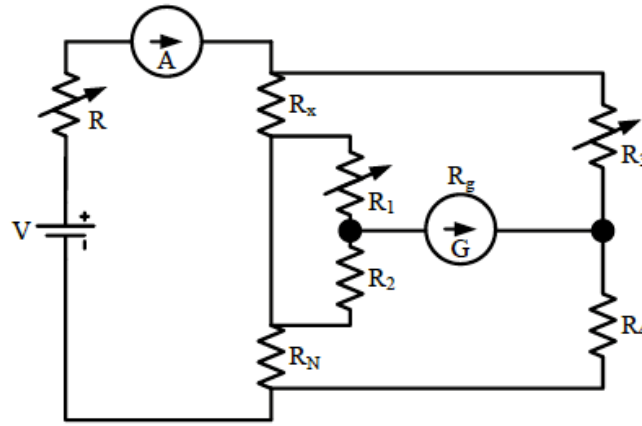

Figure 4. Thomson bridge.
When measuring small resistances with the Wheatstone bridge, the resistances of the connection wires affect the result. Therefore, small value resistors (below  $1\Omega$ ) are measured by the Thomson bridge shown in Figure 4. With this bridge, micro-ohm sized resistors can be measured. As is known, small-value resistors are manufactured with four ends to eliminate the effect of uncertain transition resistances at the attachment points.
2. Setup the circuit shown in Figure 4. Take  $R_2 = R_4 = 100\ \Omega$  and for  $R_1$  &  $R_3$ , take  $100\ \Omega$ .
4. After balancing the circuit, find the conductivity of the wire with the equation (15).